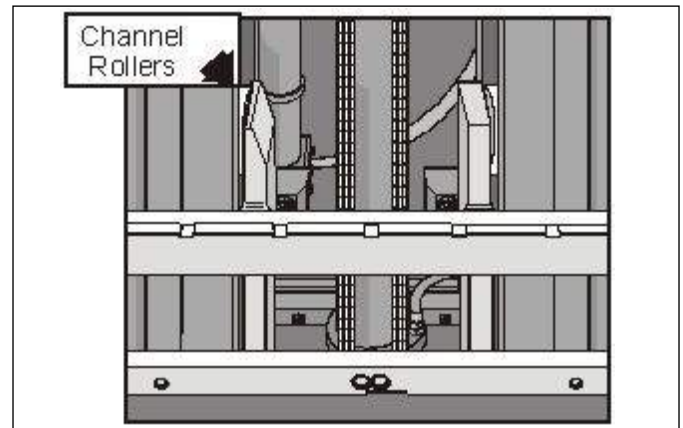

Figure 2-11: Channel Roller Contact
4. Make sure the elevating channel rollers maintain proper contact with the mast channel. **See Figure 2-11.**